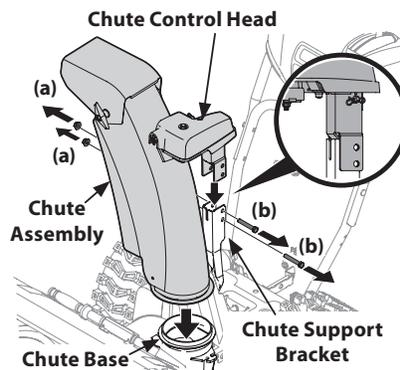

Figure 2-35
- Remove lock nuts (a) and hex screws (b) from chute support bracket (this will require two wrenches). See Figure 2-35.